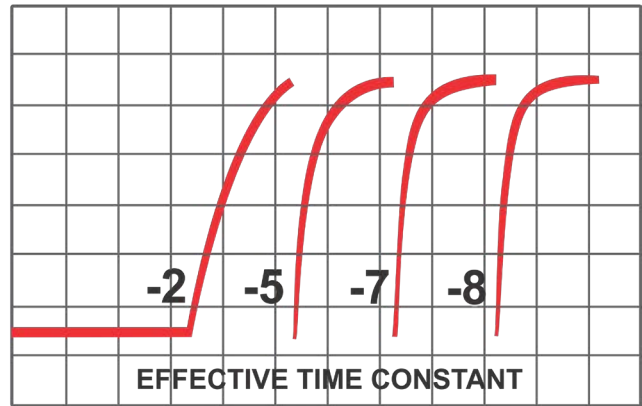

Figure 5.18 – Comparison of Effective Time Constant Value Settings
- Run the test sequence. The resulting output should be similar to that shown in **Figure 5.18**. Note that higher values for the effective time constant property will result in a steeper slope on the exponential.